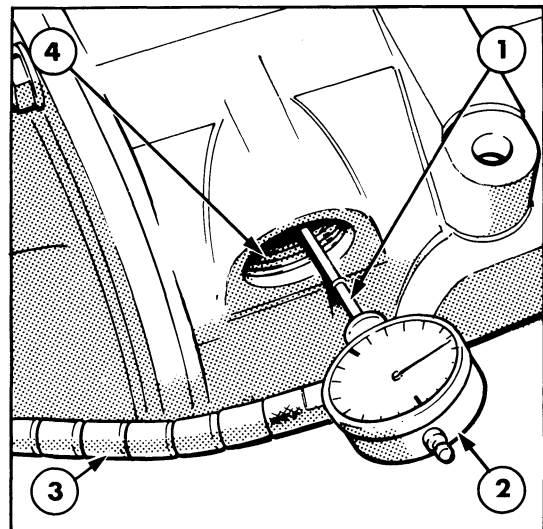

Figure 32
4. Remove the differential drain plug and mount a dial indicator on the axle casing with the plunger located perpendicular onto a tooth of the crown wheel, Figure 32.